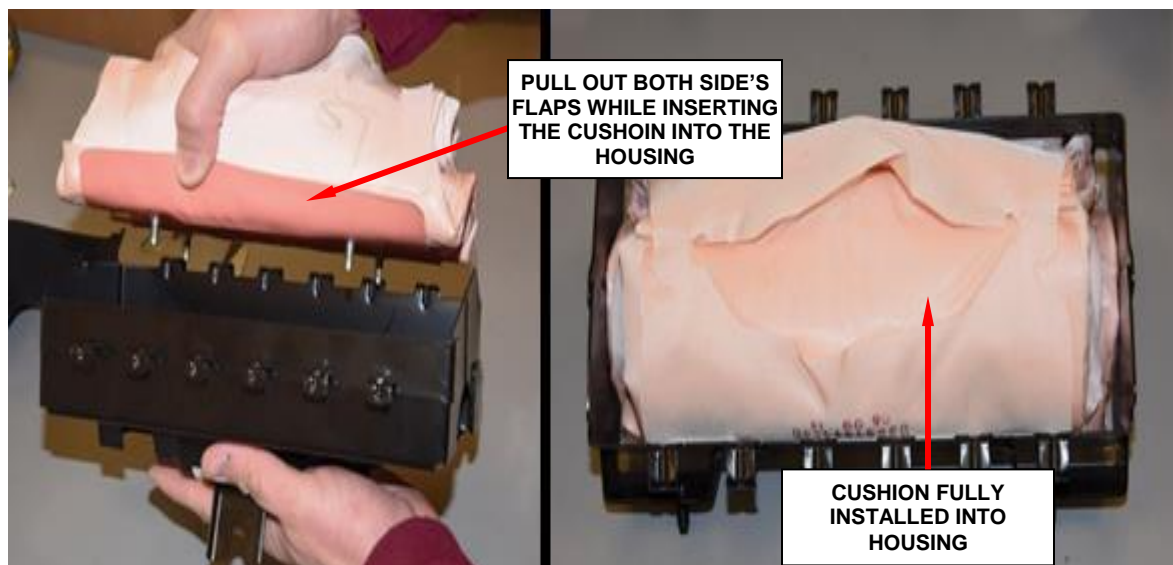

Figure 120 - Side Flaps Must Be Held Out
j. Insert the cushion, pulling out both side flaps (Figure 120).